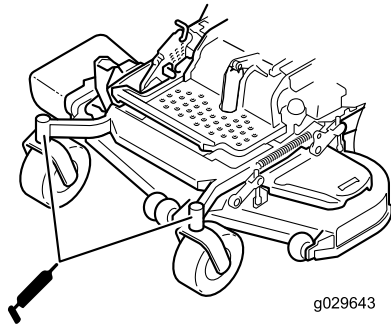

Figure 44
6. Install the hex plug and dust cap (Figure 44).
7. Grease the caster-wheel bearings (Figure 44).